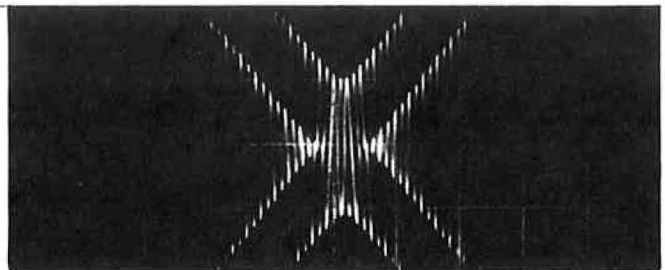
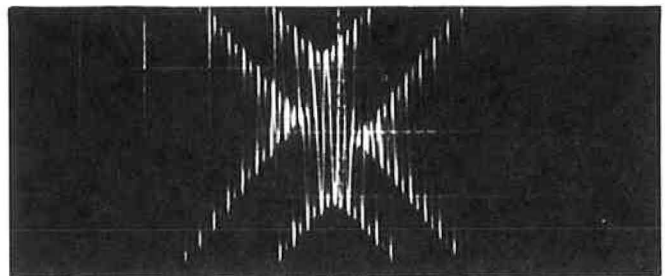

FIG. 13
FIG. 14
9. Observe the bow-tie waveform and adjust the 19-38 kHz phasing control, located on the front of the stereo generator module, to phase the horizontal arrow heads exactly horizontal to each other as shown below in Fig. 13. (Fig. 14, incorrect adjustment).